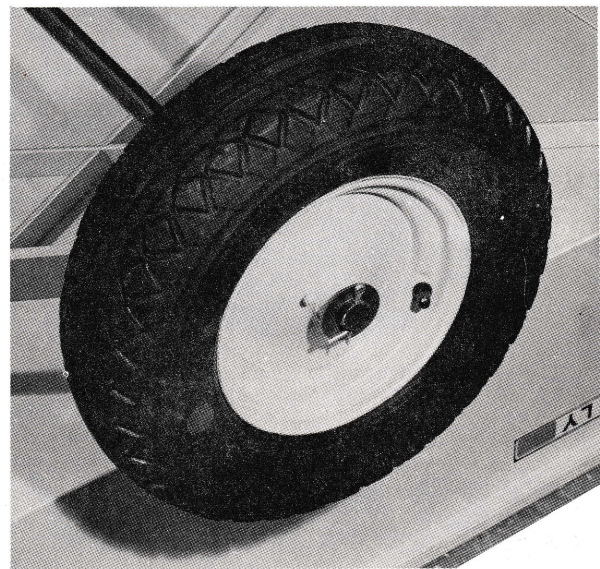

Figure 5
5. Place wheel assembly, valve stem out, on each end of axle. Secure with flatwasher and cotter pin on each end of axle. See Figure 5.